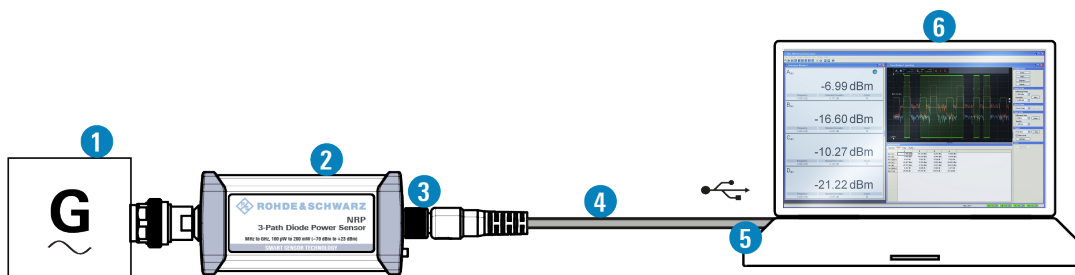

Figure 6-2: Setup with an R&S NRPV
1. Connect the power sensor to the computer as shown in Figure 6-2.